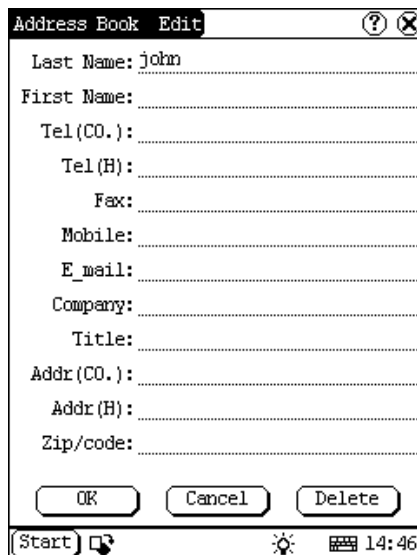

Figure 5-20
- 2) Then the information about the person can be edited in the opened Address Edit interface. See Figure 5-20.